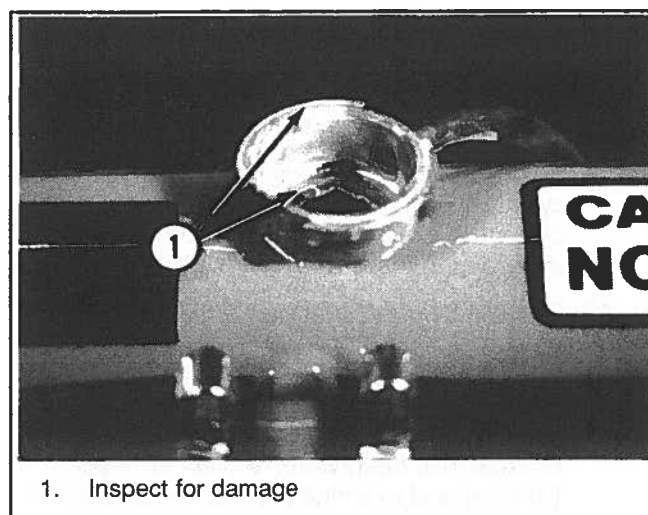

Figure 10-5. Heat Exchanger
2. Remove fresh-water-section-circuit hoses and inspect the tubes just inside the nipples (Figure 10-5). Since the complete exchanger cannot be inspected, replace the heat exchanger if blockage is suspected.